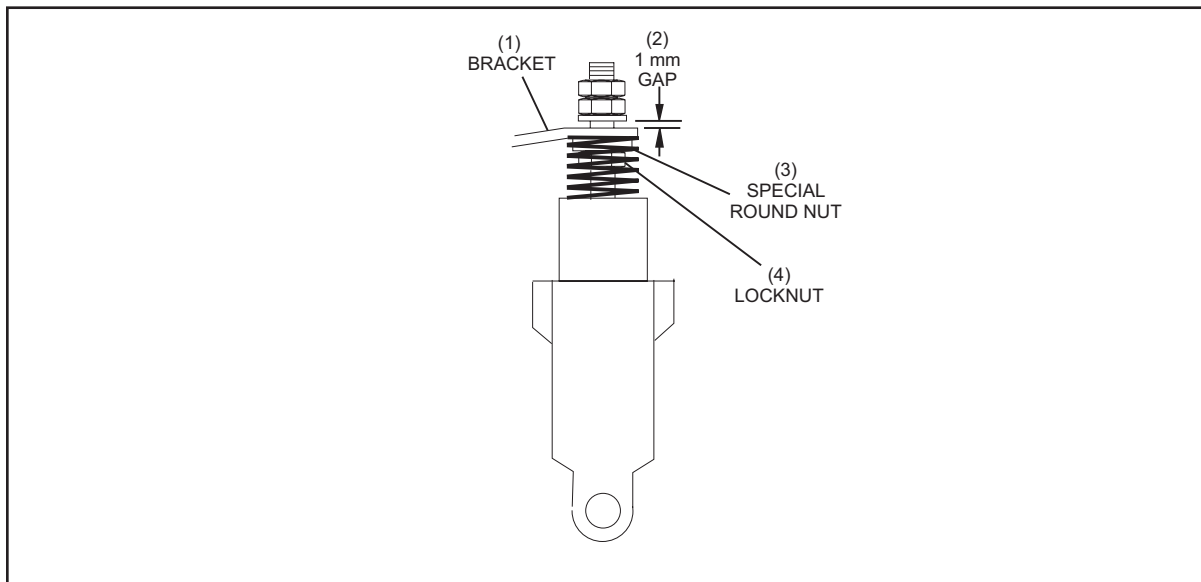

Figure 5-11. Adjust Jam Nuts on Shock Absorber Bracket
- (1) CUSHION BOARD (2) BALL CUSHION STOP BRACKET
2. Verify that lower locknut and special round nut on shock absorber bracket (*Figure 5-11*) are installed properly. (No threads must be visible below bottom locknut.)
3. With the cushion held against the ball cushion stop, adjust the two upper jam nuts until a gap of 1 mm is obtained between the flat washer and the top of the shock absorber bracket. Refer to *Figure 5-11*. With the ball cushion being held against the ball cushion stop, the shaft must not be bottomed in the shock absorber.